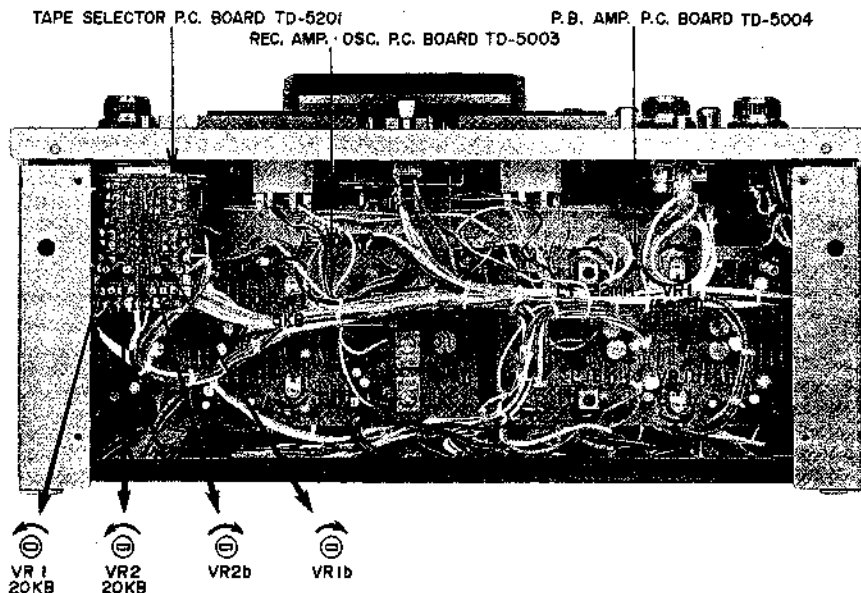

Fig. 21
- 4) Adjust semi-fixed resistors VR1 50 kB (left ch.) and VR1b 50 kB (right ch.) of P.B. Amp. P.C. Board (Fig. 21) to obtain a 0 dBm ("0" VU) line output level on both channels.
- 7) Adjust semi-fixed resistors VR1 5 kB (left ch.) and VR1b 5 kB (right ch.) of Recording Amp. OSC., P.C. Board (Fig. 21) to obtain a 0 dBm ("0" VU) line output level on both channels.
- 7) Adjust semi-fixed resistors VR1 20 kB (left channel) and VR1b 20 kB (right channel) of tape selector P.C. Board (Fig. 21) to obtain a 0 dBm ("0" VU) line output level on both channels.
NOTE: 1) In the case of wide range tape, set Tape Selector to WIDE RANGE position and use AKAI S.R.T. tape and adjust semi-fixed resistors VR2 20 kB (left ch) and VR2b 20 kB (right ch) of tape selector P.C. Board (Fig. 21) in the same way as outlined in article 4.
- 5) Switch the oscillation frequency of the audio frequency oscillator to 10,000 Hz from the condition outlined in item 5-4)
- 6) Adjust trimmer condensers TC1 70P (left ch) and TC2 70P (right ch) of Recording Amp. OSC., P.C. Board (Fig. 21) to obtain the same level on both channels at both of the two frequencies mentioned in items 5-4) and 5-5).